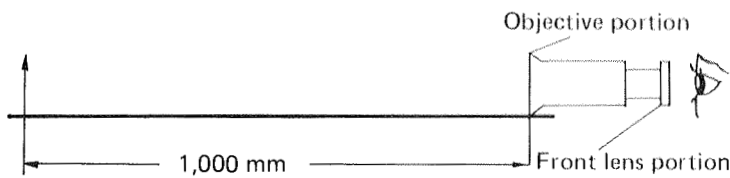

Fig. 11-16
c) Looking through the C-15, move the front lens portion in or out until an object 1,000 mm away from the C-15 is brought into focus. (See Fig. 11-16)